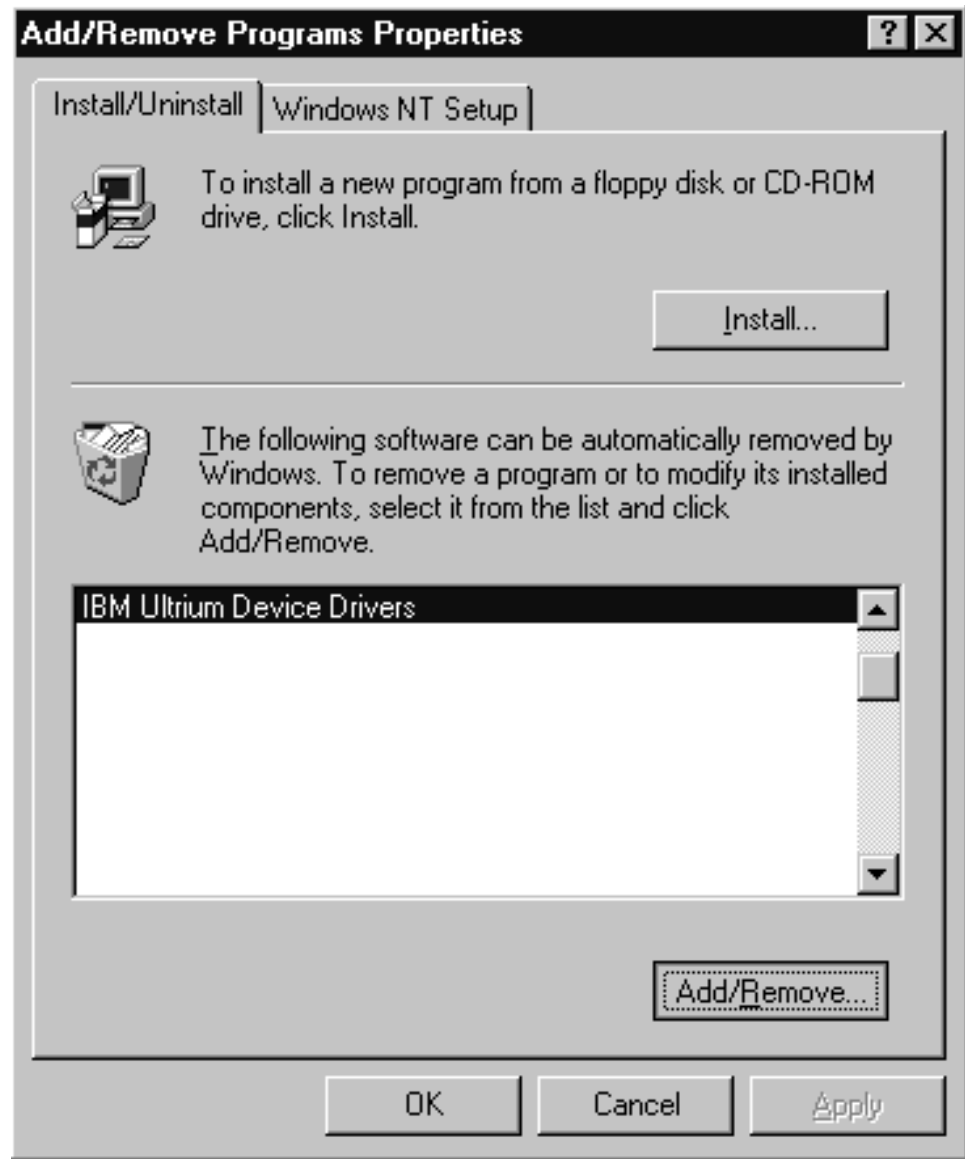

Figure 23. Add/Remove Properties
7. Highlight **IBM Ultrium Device Drivers**, then click **Add/Remove...** See Figure 23.